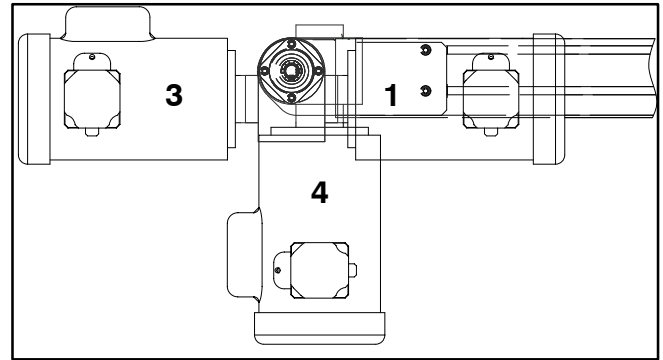

Figure 3
**NOTE:** Gearmotor may be operated in positions 1, 3 or 4 (Figure 3).